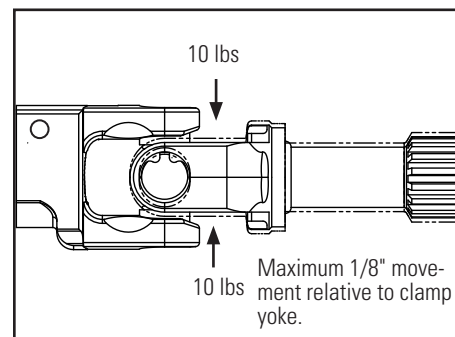

Figure 4 - Maximum Movement
5. Maximum allowable movement of the weld yoke relative to the clamp yoke is 0.125". If the yoke movement is greater than 0.125", either the cross shaft assembly should be replaced (see TRW Service Procedure #COL-151) with kit # SK000198 (non-greasable) or SK000275 (greasable), or intermediate column should be replaced. **See Figure 4.**